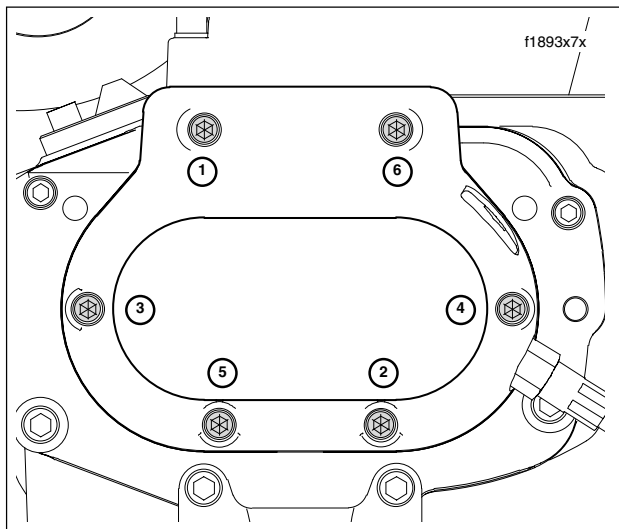

Figure 7-13. Clutch Release Cover Torque Sequence
15. Holding clutch release cover in position against transmission side door, install six socket head screws. Alternately tighten screws to 120-144 **in-lbs** (13.6-16.3 Nm) in the sequence shown in Figure 7-13.
8. Holding clutch release cover in position, install six socket head screws. Tighten screws to 120-144 **in-lbs** (13.6-16.3 Nm) in the sequence shown in Figure 7-13.